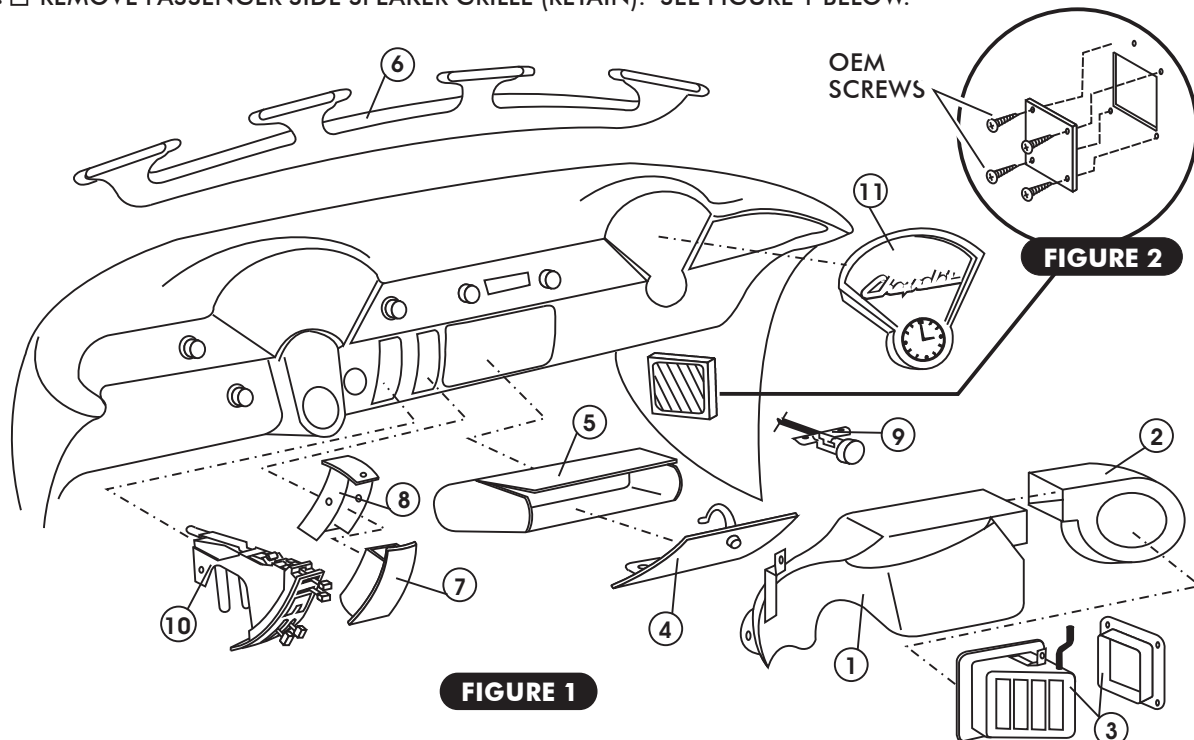

FIGURE 1
6. ENGINE & PASSENGER COMPARTMENT FIGURES 1 & 2
1. REMOVE OEM HEATER ASSEMBLY, INCLUDES: CONTROL CABLES, TWO (2) 7/16" NUTS ON FIREWALL AND ONE (1) UNDER DASH (DISCARD).
2. REMOVE HEATER BLOWER (DISCARD). SEE FIGURE 1 BELOW.
9. REMOVE VENT & CABLE FROM DASH (RETAIN. SEE FIGURE 1 BELOW).
11. REMOVE PASSENGER SIDE SPEAKER GRILLE (RETAIN). SEE FIGURE 1 BELOW.